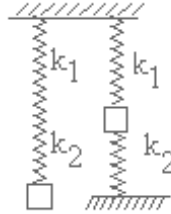

Figure 1
4. Determine the period of vibration of a weight 'P' attached to springs of stiffness k_1 and k_2 , in two different cases as shown in the figure 1. [16]